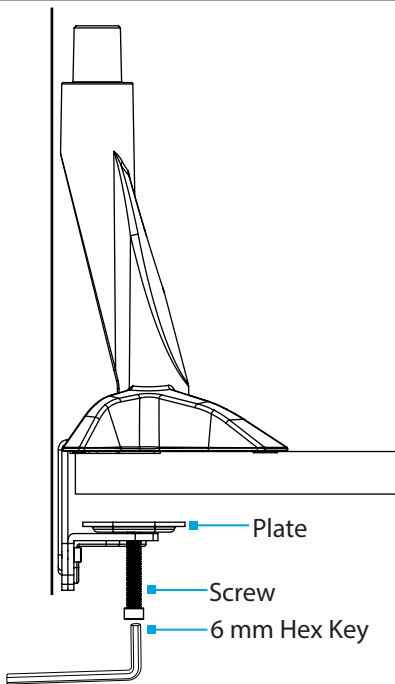

Figure 9
7. Tighten the **Hex Screws**, located in the **Clamp Screw Assembly** until the **Plates** are seated tightly against the **Desk** or **Table**, using the **6 mm Hex Key**. (Figure 9)